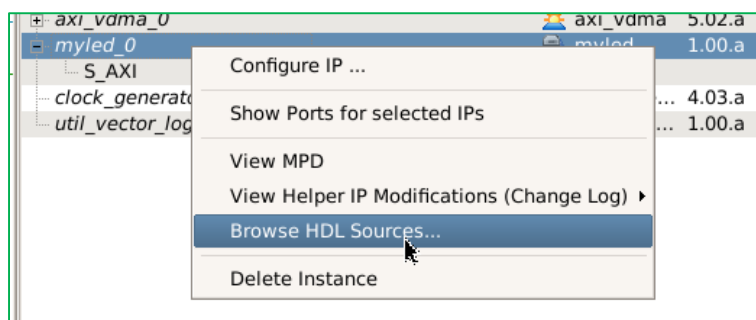

**Figure 18. MYLED IP shows up in the design**
**I-15** You will see an IP named myled\_0 is added to your system with **S\_AXI** connected to **axi\_interconnect\_1** as shown in Figure 18.